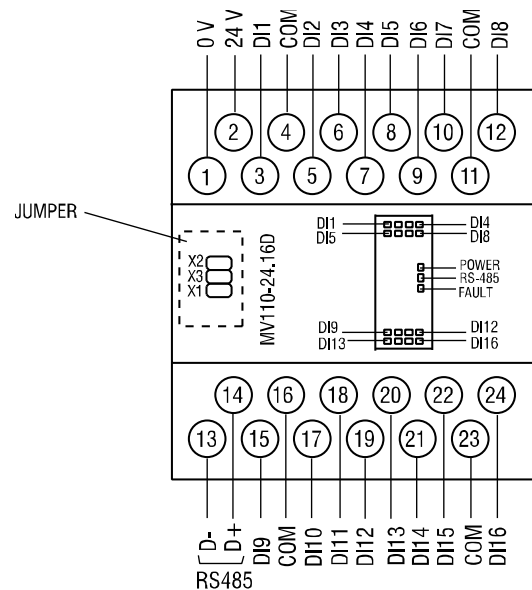

Fig. 4.1 Electrical connections of MV110-16D
- Electrical connections are shown in Fig. 4.1 and 4.4 and pin assignments are shown in Table 4.1 and 4.2.
- Open the cover on the front panel of the module (see Fig. 4.1)